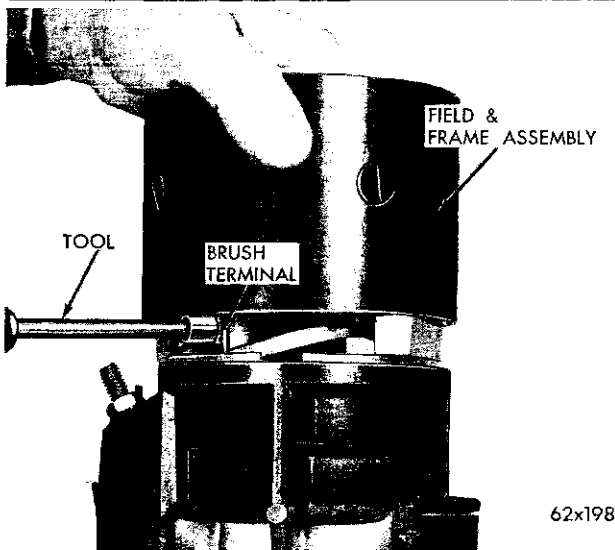

Fig. 20—Removing or Installing Brush Terminal Screw
nected to this terminal. The other pair of brushes is attached to the series field coils by means of a terminal screw. Carefully pull the frame and field assembly up just enough to expose the terminal screw and the solder connection of the shunt field at the brush terminal. Place two wood blocks between the starter frame and starter gear housing (Fig. 20) to facilitate removal of the terminal screw and the unsoldering of the shunt field wire at the brush terminal.
- (1) Install the starter in a test bench.
- (2) Follow the instructions of the test equipment manufacturer and test the locked resistance of the starter against the following specifications.
- (3) With applied battery voltage adjusted to 4 volts, the amperage draw should be as shown in specifications.
- (4) Support the brush terminal by placing a finger behind the terminal and remove the terminal screw (Fig. 20).